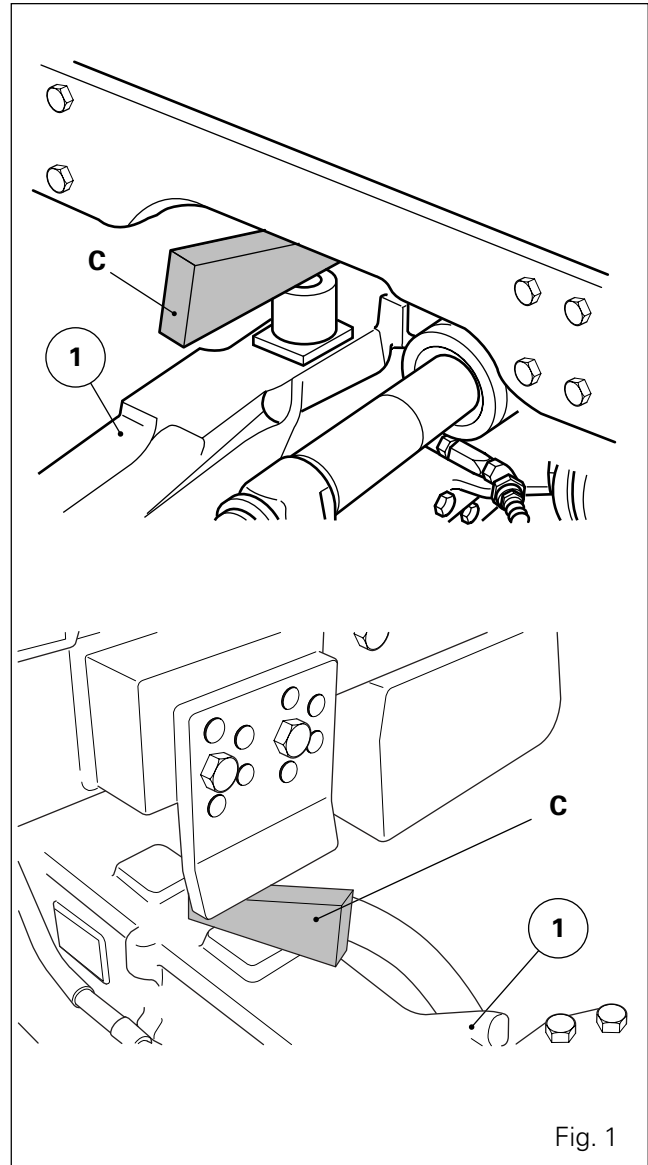

Fig. 1
14. Set the handbrake and block front axle (1) using appropriate chocks "C" (Fig. 1). If necessary, remove the chassis reinforcements (see section 2F01).